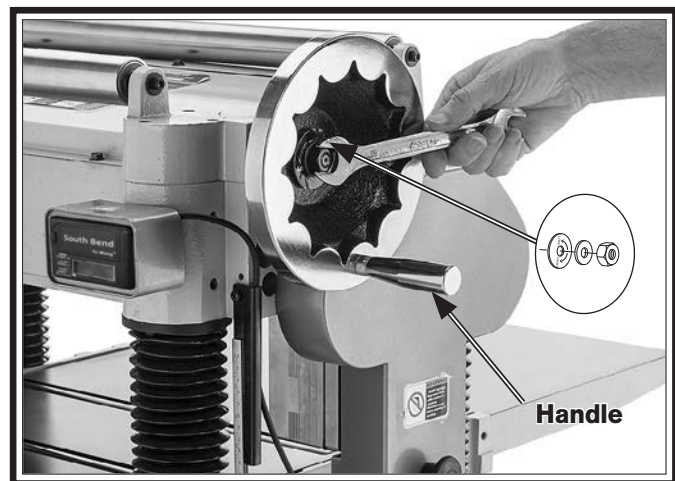

Figure 17. Installing handwheel on shaft.
6. Line up notch in handwheel bore with key, slide handwheel onto shaft, then slide handwheel direction label onto shaft, and secure with M10-1.75 hex nut and 10mm flat washer (see **Figure 17**).
7. Thread handle into rim of handwheel and tighten with wrench (see **Figure 17**).